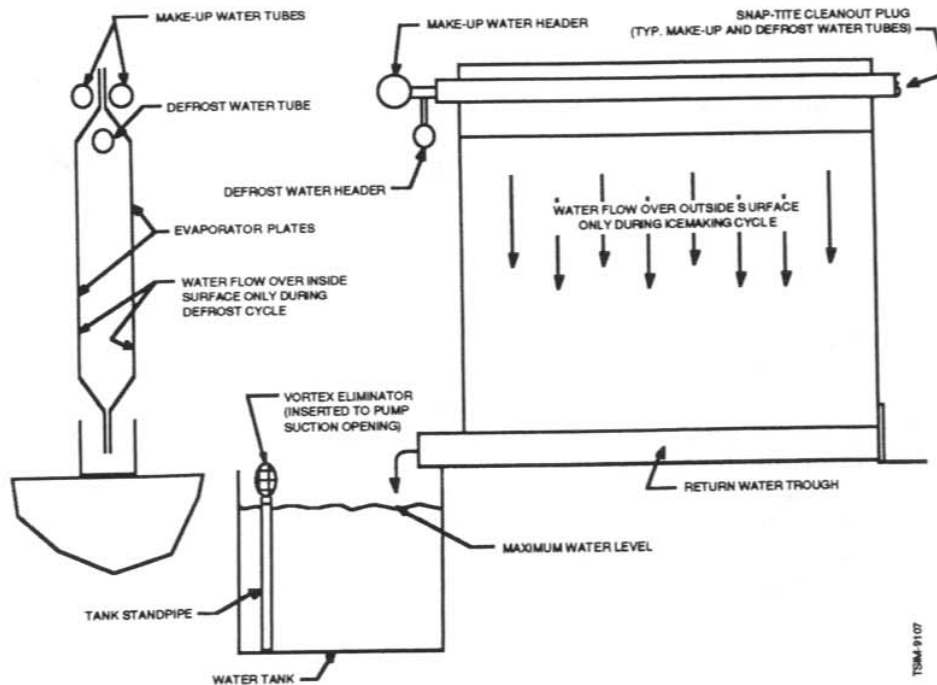

Figure 4-4 Typical Plate And Trough Assembly
Several evaporator plates are connected to a common water tank to form a section (typically seven (7) or ten (10) tons of ice per day). Water is not circulated over the inside plate surface during the refrigeration or icemaking mode. Refer to Figure 4-4.
1. At the conclusion of the refrigeration (icemaking) cycle and the drying cycle, water is circulated on the inside of each set of evaporator plates through the defrost water tubes. Refer to Figure 4-4.